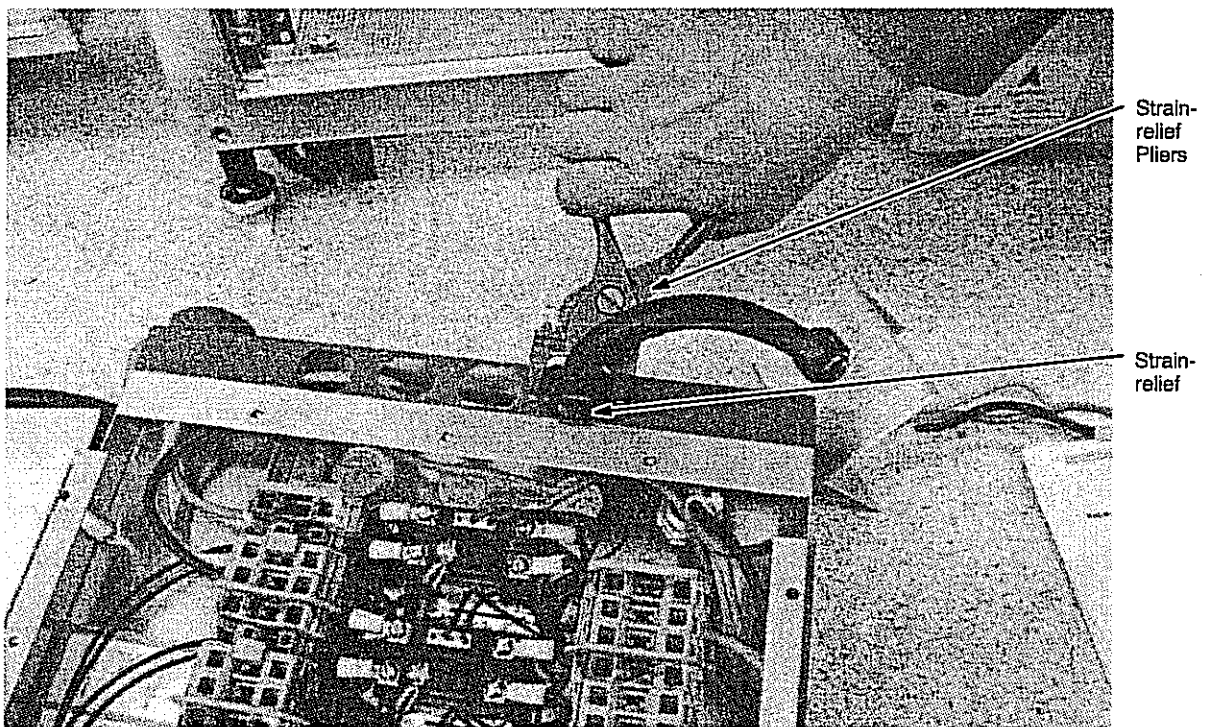

Figure 7-30. Cable Strain-relief Device
15. Remove each AC cable strain-relief using a strain-relief pliers (part number 90232800), and remove the cables. The procedure for removing a strain-relief is located inside the incoming power module. Refer to Figure 7-30.